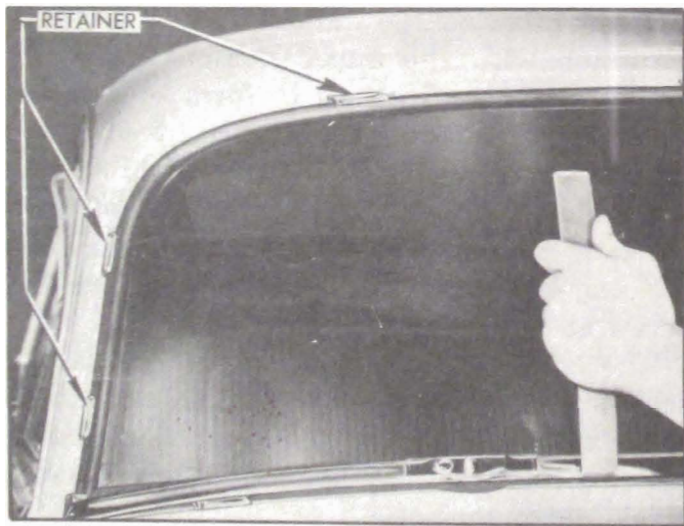

Figure 13-32—Removal of Reveal Molding—1949 Series 50-70
6. Remove bottom section of reveal molding by prying **UPWARD** toward glass with removing tool. See figure 13-32.